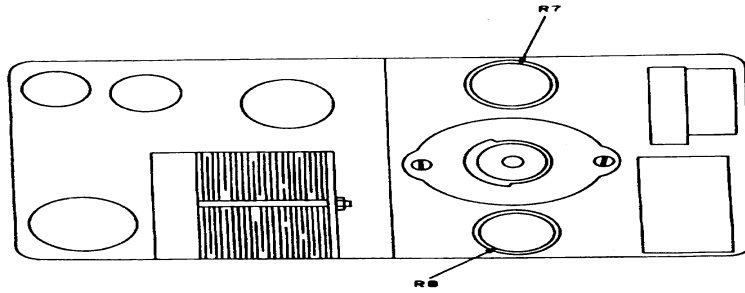

Figure 1. Frequency adjustment locations.
- (1) Set range function control to **4000-25000**.
- (2) Adjust **RPM** control to **21600**.
- (3) Adjust **HIGH CAL** trimmer for 2.78 ms indication on frequency counter.
- (4) Adjust **RPM** control to **5400**.
- (5) Adjust **LOW CAL** trimmer for 11.11 ms indication on frequency counter.
- (6) Repeat (2) through (5) above to compensate for interaction of adjustments.
- (7) Set range function control to **670-4170** and adjust **RPM** control to **3600**.
- (8) Adjust R7 (fig. 1) for 16.66 ms indication on frequency counter (R).
(9) Adjust **RPM** control to **900**. If frequency counter does not indicate between 66.00 and 67.340, repeat (1) through (8) above.
(10) Set range function control to **110-690** and adjust **RPM** control to **600**.
(11) Adjust R8 (fig. 1) for 100.0 ms indication on frequency counter (R).
(12) Adjust **RPM** control to **150**. If frequency counter does not indicate between 396.03 and 404 ms, repeat (1) through (6), (10), and (11) above.
(13) Repeat **a** above.